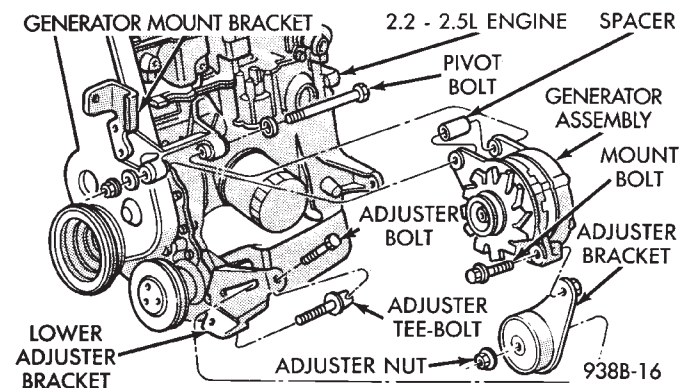

Fig. 3 Remove or Install Mounting Bolts
- (4) Remove the two generator mounting bolts (Fig. 3) and position the generator to gain access to all the wire connectors. If equipped with: